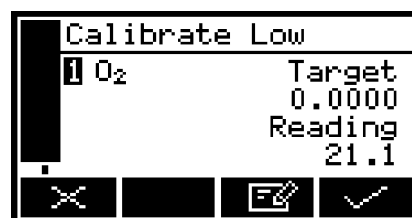

Figure 74 – The calibrate target value screen
4. Press the  soft key. The Calibrate target value screen will then be shown (see Figure 74), identifying the target value and the current reading.